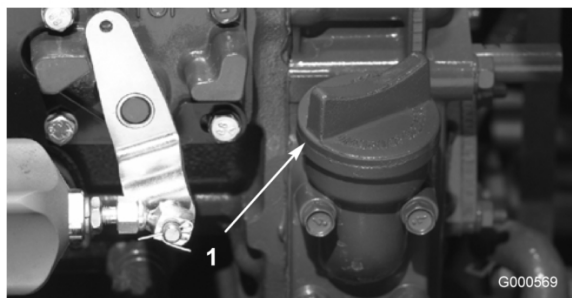

Figure 11
4. If the oil is below the FULL mark, remove the fill cap (Figure 11) and add oil until the level reaches the FULL mark. **Do not overfill.**